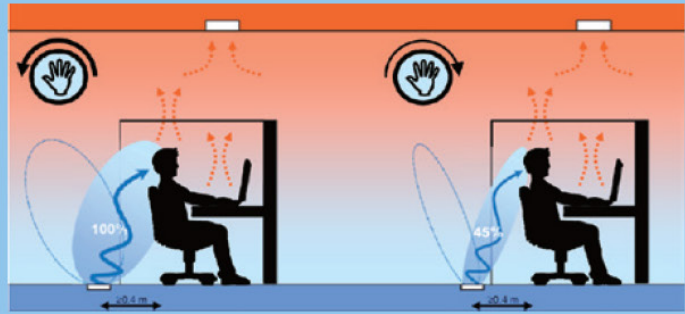

Figure 4
- **Option “E = Electrical VAV”** (figure 4)
- 6 Quiet operation: ≤ 36 dB(A) sound power level @ 25 Pa (0.100 in wg), depending on damper setting.
- Optional Configuration "E = Electrical VAV" (figure 4):